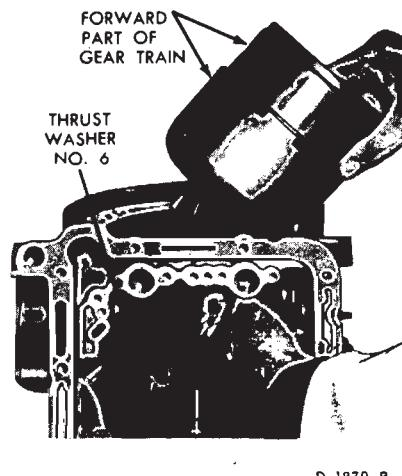

FIG. 38—Removing or Installing Forward Part of Gear Train
5. Using a screwdriver between the input shell and rear planet carrier (Fig. 37), lift the input shell upward and remove the forward part of the gear train as an assembly (Fig. 38).
13. From inside the transmission case (Fig. 38) remove thrust washer No. 6 from the top of the reverse planet carrier.